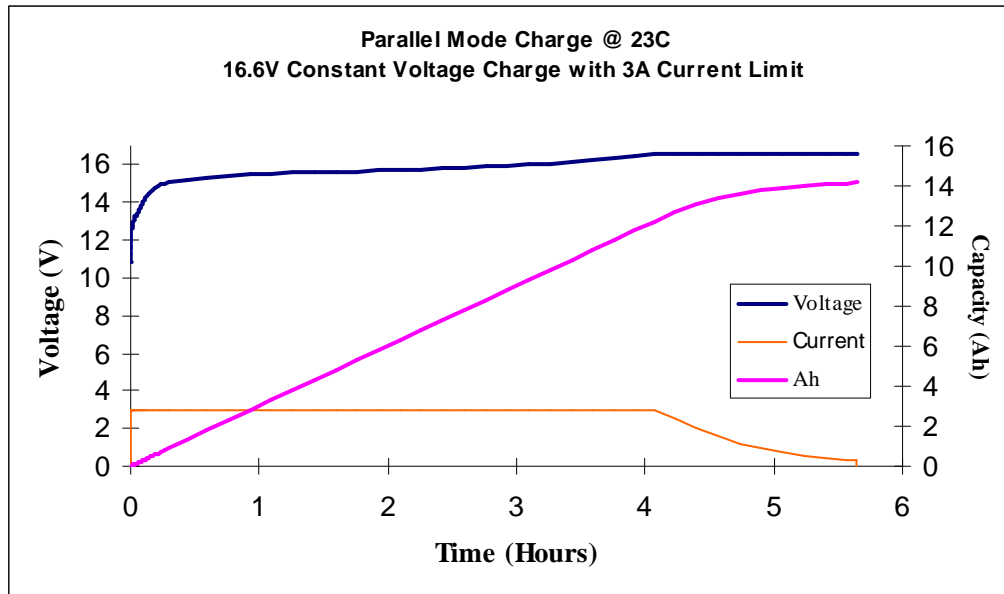

Figure 2
8.1. Recommended Charge: Charge each section at Constant Voltage at 16.5 volts, current limited to 3A for 3 hours or until current reduces below 300mA. See Figure 2 for a typical graph.